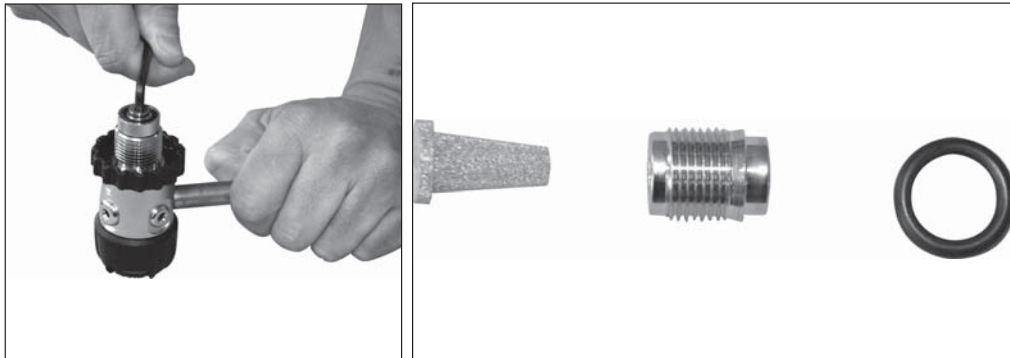

FIG. 1
1. Unscrew the DIN OR seat (15) from the DIN fitting (24) with a 4-mm Allen wrench (Fig. 1).
2. Remove the O-Ring (25) from the OR seat (15).
3. Remove the sintered filter (7) from the DIN connector body (24), turning the first stage over.